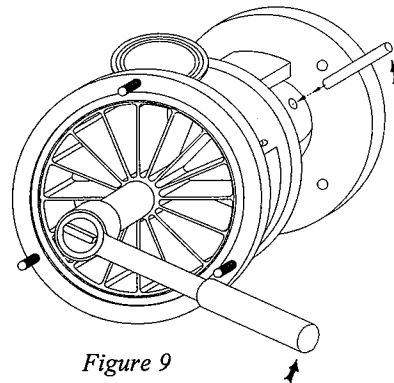

Figure 9
Remove the housing guard (12) and flange guards (37) by loosening and removing the guard screws (13). Place the 3/8" diameter rod in the hole opposite the shaft clamping bolts (31) on the impeller shaft (30). Allow the rod to rest against the pump flange adapter (32) to keep the shaft from rotating while loosening the impeller nut (4) with the 15/16" socket wrench (**Figure 9**).